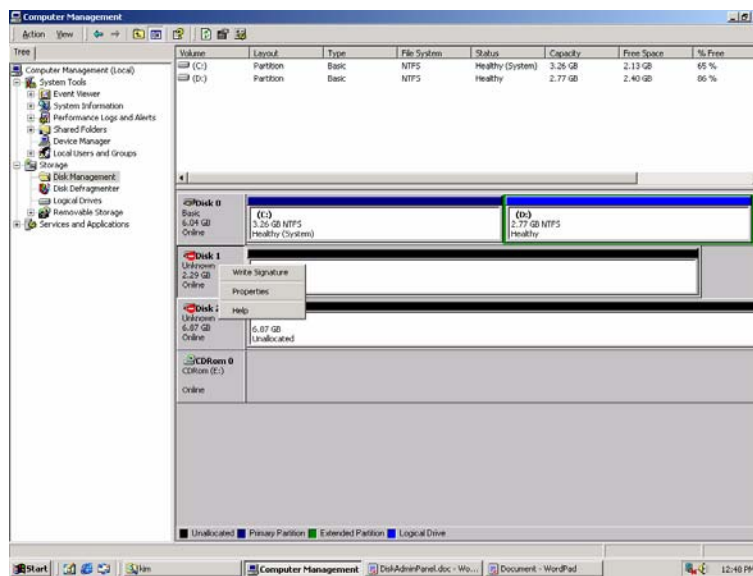

Figure 3.2 Writing Signatures
4. The Disk Management displays each new device by disk number and asks if you want to write a signature on the disk (see Figure 3.2). You may only write a signature once on each device. For all SCSI disk devices, select **OK** to write a signature.